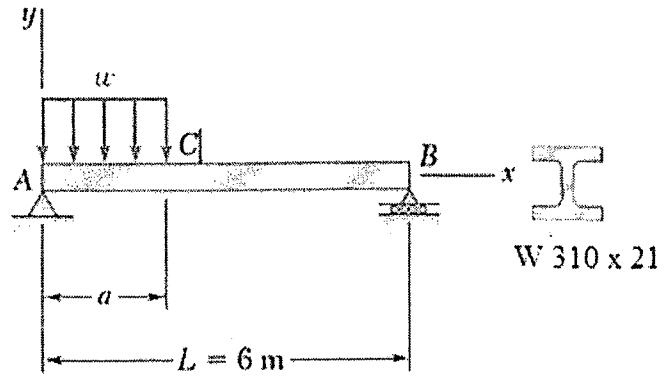

Figure 6
6. Consider the beam and loading shown in Figure 6. If $a = 5.2$ m, $w = 50$ kN/m, and $E = 200$ GPa, determine,